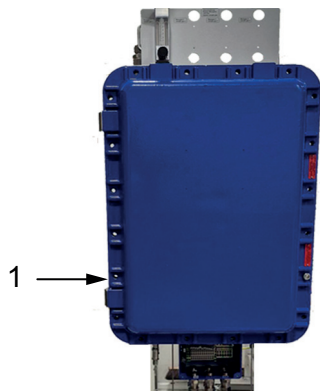
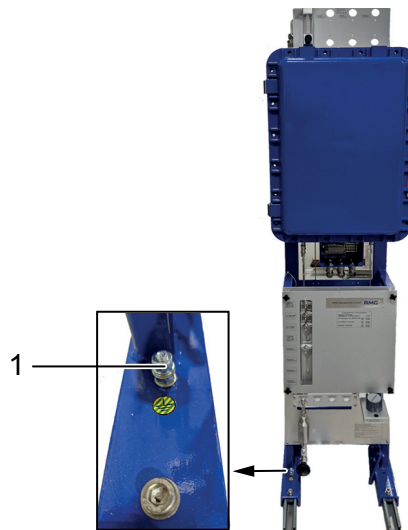

Fig. 27: Wall mounted variant
Fig. 28: Floor-mounted variant
- Please carry out earthing at the designated location (see fig. 27 and fig. 28). Use an earthing cable with a **minimum cross-section of 4 mm²**.